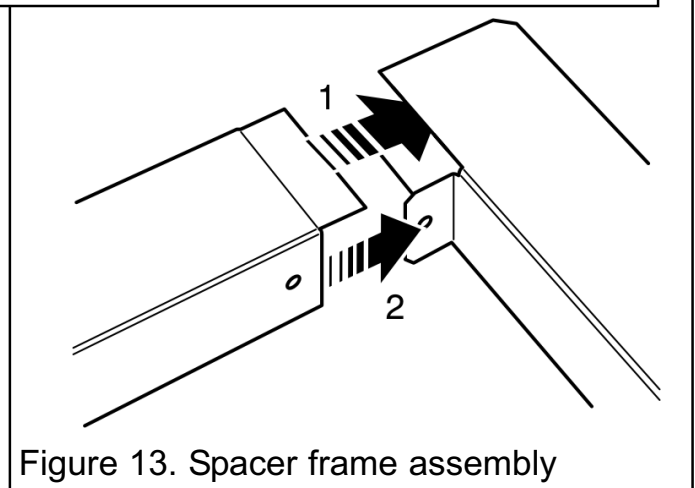

Figure 13. Spacer frame assembly
9. The sides have a stepped top face. These must be located on the inside the top piece (See point 1 of figure 13). The tabs on the top piece must locate on the inside of the side pieces (See point 2 of figure 13). Secure the two side pieces to the top piece using two self tapping screws supplied. Locate the screws from inside the 'U' channel.